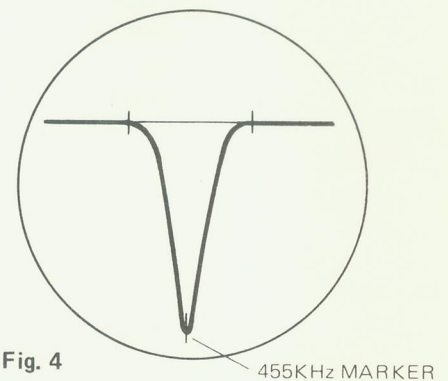

Fig. 4
- (1) With the receiver set to a high receiving frequency (variable capacitor in full open position), adjust T202 and T203 until the IF waveform becomes maximum.
- (2) If, in this case, the adjustment is difficult because of disturbing signals, the variable capacitor may be turned to facilitate the adjustment.
- (3) The waveform displayed on the alignment oscilloscope is as shown in Fig. 4.